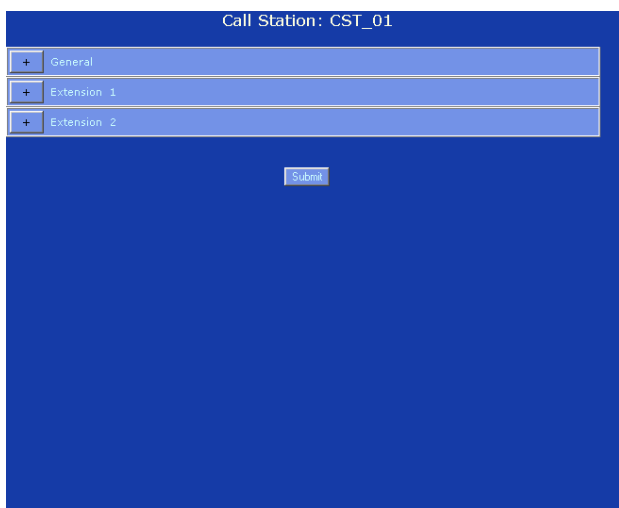

figure 38.29: Zone emergency status, step 2
- 2 Click the name of the call station to which the keypad of which the key that must be configured has been connected. A screen similar to the one in figure 38.29 appears in the main frame of the web interface.